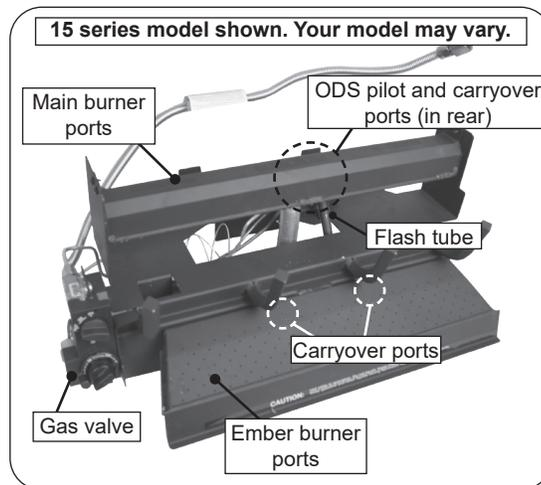

Fig. 31-1 Burner assembly
2. Dust the assembly and the burners. Using a compressed air duster (commonly available at computer, electronic, or office supply stores) blow through the flash tube, carry over ports, and all of the burner ports. See Fig. 31-1 for locations.